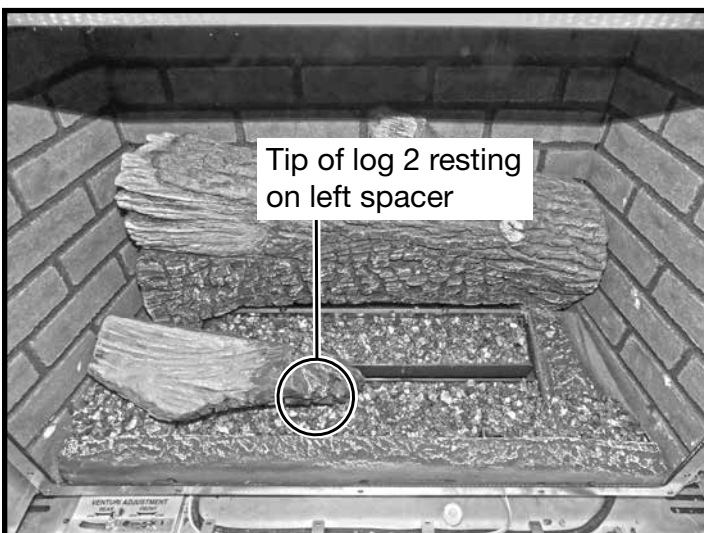

Figure 77: Log 2 positioned on spacer.
10. Place log number two (Figure 53) so that the post protruding from the bottom of the log can be inserted into the hole of the left base piece. Then position the front tip of the log so that it rests on top of the spacer (Figure 77). The log and the ember pieces should ideally hide the spacer.